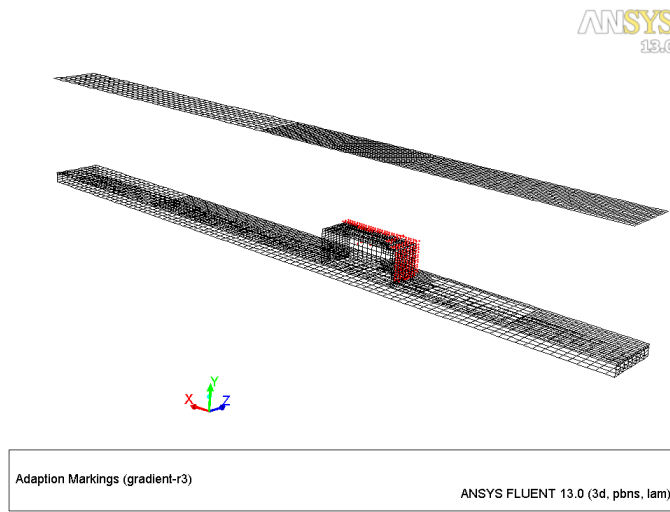

Figure 20: Cells Marked (approx. 250) for Second Temperature Gradient Adaption
- Figure 20 shows the cells marked for the second temperature gradient adaption.